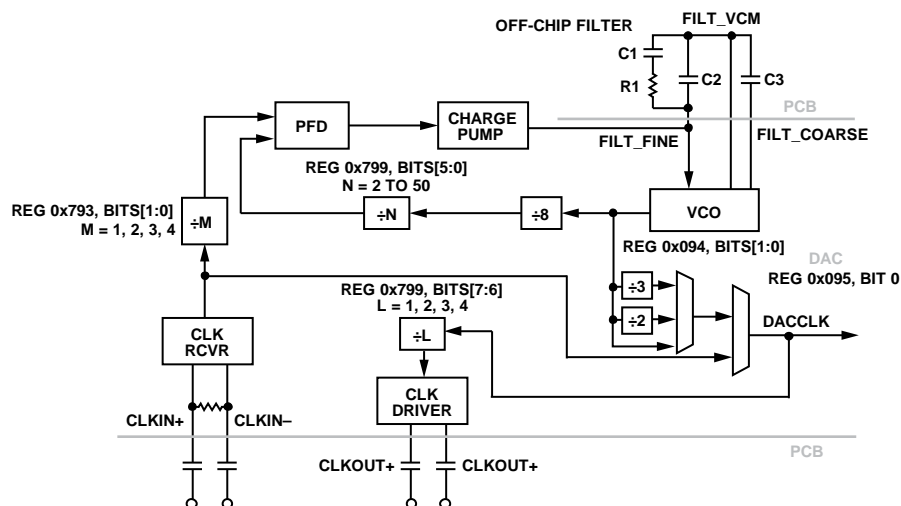

Figure 92. DAC PLL and Clock Path Block Diagram
The AD9175 includes an integer PLL/VCO block that allows generating a DAC clock (f_{DAC}) from an external reference frequency (f_{REF}) between 25 MHz and 3080 MHz, applied to the CLKIN± pins (see Figure 92). When using the on-chip PLL, select the predivider (M) via Register 0x793, Bits[1:0] to internally divide the reference frequency to be within the range of 25 MHz to 770 MHz of the phase frequency detector (PFD) circuitry block input. Enable the DAC PLL synthesizer by setting Register 0x095, Bit 0 to 0.
To generate the required VCO control voltage from the charge pump (CP) output, the AD9175 DAC PLL requires an external loop filter. The recommended filter is a passive low-pass filter of a topology similar to the one shown in Figure 92. Generally, the pass band width of the filter (bandwidth) trades off loop response time during a frequency change with loop stability after the initial frequency lock occurs. For proper filter layout and component selection, which results in optimal performance for most applications, refer to the documentation of the AD9175-FMC-EBZ evaluation board. The user may however customize the filter to fit a specific application, according to the PFD